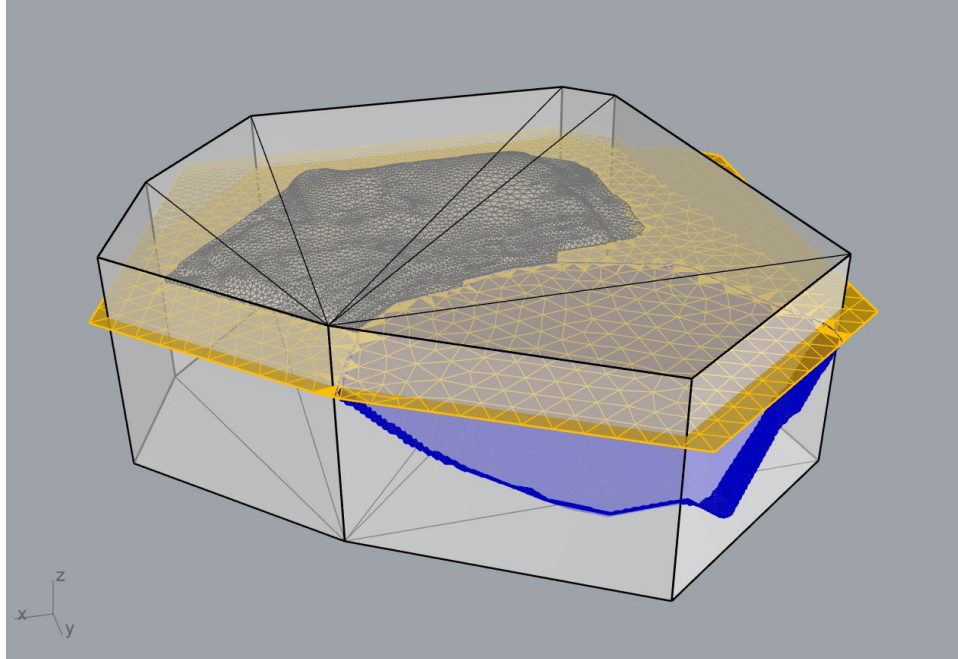

Figure 82: The box, pit, and dump meshes with the last two extended and intersected with the topo mesh.
20. Navigate to the *Layers* panel and unlock layer “Box” (click on the lock icon). Turn on the layer if it is turned off. Mesh the box polysurface with the **_Mesh** command, using simple controls and the fewest number of polygons. After meshing, the polysurface is still selected. Delete it. The result is shown in Figure 82.